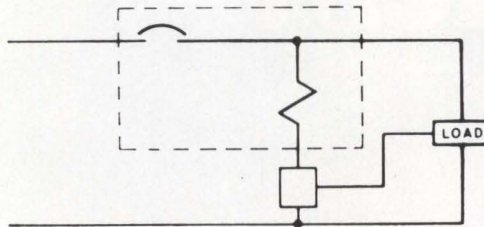

Fig 3 Shunt trip configuration. This circuit breaker acts as on-off switch and externally controls automatic shutdown device
An alternative distributed approach to the design of the large switch is to divide the processing load by traffic [Fig 3(b)]. Each processor performs all functions for a subset of the traffic. The total number of processors can be calculated from Eq (1), by adding all contributions from host, trunk, and terminal processing. In a traffic sharing approach, all processors will handle greater than 64k bytes because each processor will contain a copy of the total program; therefore, the mapping factor is 1.1. I/O processing
Shunt trip configurations (Fig 3) are applied primarily for control of multiple loads. Basically, a third connection is brought out from the internal coil contact junction to a third terminal, often referred to as a calibrating tap. This permits use of a shunt across the trip coil that, if made adjustable (Fig 4), can be used to accurately calibrate the trip level.
On relay trip types, coil contact leads are brought out to separate pairs of terminals (Fig 5). This configuration permits the overload sensing coil to be placed in a circuit that is electrically isolated from the trip contacts. The coil may be actuated by process control or monitoring sensors such as pressure, flow, temperature, and speed. Other typical applications include crowbar, interlock, and emergency/rapid shutdown circuitry (Figs 3 and 6). A trip can be accomplished by either voltage or current.